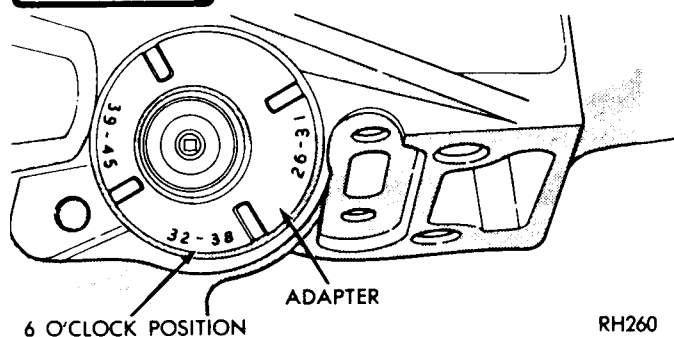
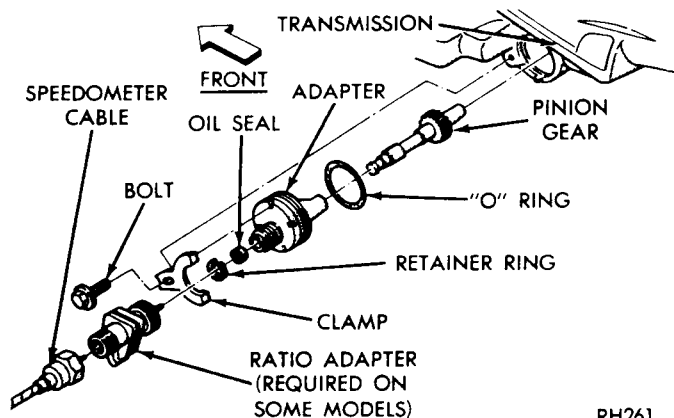

Fig. 1—Speedometer Pinion and Adapter
Fig. 2—Speedometer Drive
- (1) Place drain pan under speedometer adapter.
- (2) Remove bolt and retainer securing speedometer pinion adapter in the extension housing (Fig. 1).
- (3) With cable housing connected, carefully work adapter and pinion out of the extension housing.
- (4) If transmission fluid is found in cable housing, replace seal in the adapter (Fig. 2). Start seal and retainer ring in the adapter, then push them into adapter with Tool C-4004 until tool bottoms (Fig. 3).
(5) Note number of gear teeth and install speedometer pinion gear into adapter.
(6) Rotate the speedometer pinion gear and adapter assembly so that the number on the adapter, corresponding to the number of teeth on the gear, is in the 6 o'clock position as the assembly is installed (Fig. 1).
(7) Install retainer and bolt, with retainer tangs in adapter positioning slots. Tap adapter firmly into the extension housing and tighten retainer bolt to 100 in. lbs. (11 N-m). Refill transmission.